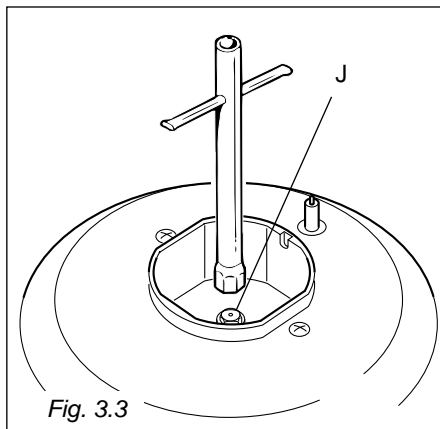

Fig. 3.3
- Using a wrench, substitute the nozzle injectors "J" (fig. 3.3, 3.4) with those most suitable for the kind of gas for which it is to be used.